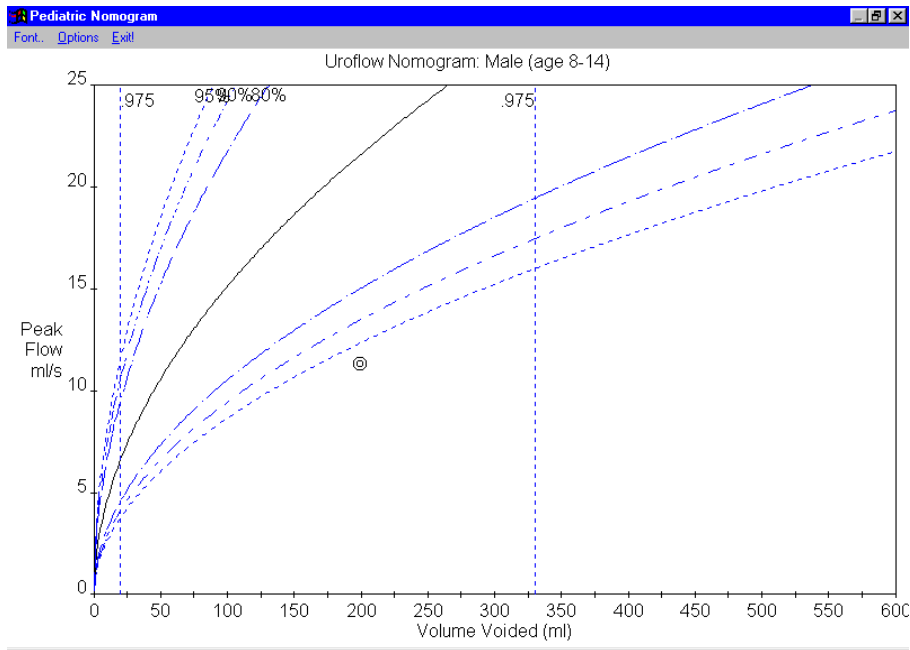

Figure 73: Pediatric Nomogram Window
1. Click Pediatric Nomogram in the *Voiding Summary* window. The *Pediatric Nomogram* window will appear (Figure 73).